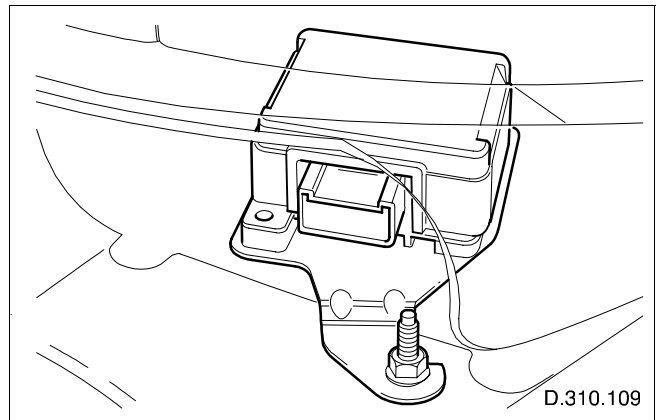

Fig. 25 Fuel pump module
- The ECM also uses this information to demand a specific fuel flow rate from the fuel pump via the fuel pump module; the module is located underneath the rear passenger seat; refer to **Fig. 25**